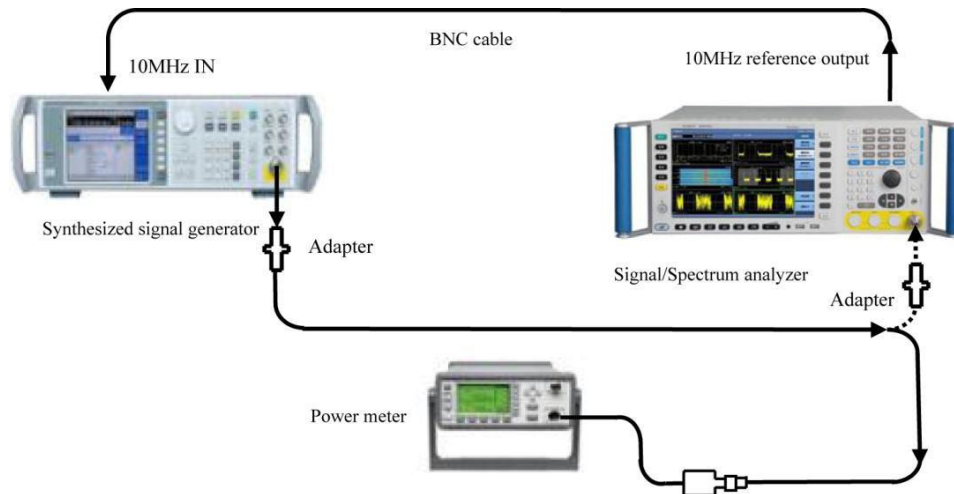

Fig. 8.10 Schematic diagram of overall absolute amplitude accuracy test
- 1) Zero and calibrate the power meter. Connect the tested instrument according to solid lines in Fig. 8.10 and connect the output of the signal generator to the power meter. Reset the S3503 analyzer and complete all calibrations without prompted error
- 4) Change the connections in the test according to dotted lines in Fig. 8.10 to connect the cable via the adapter to the S3503 analyzer.